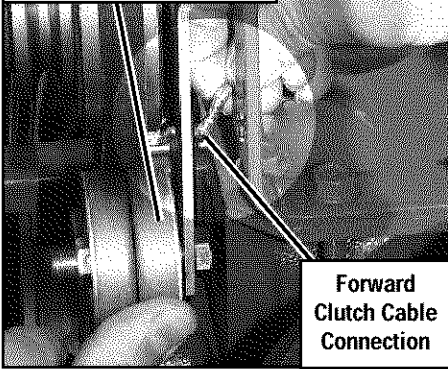

Figure 5-17
4. On left-side of unit, disconnect the forward clutch cable from the forward clutch idler arm bracket (Figure 5-17). Note the hole from which you disconnect the cable. It is important to reconnect the cable to the same hole.
5. Reconnect the forward clutch cable to the correct hole in the idler arm bracket, as shown in Figure 5-17.